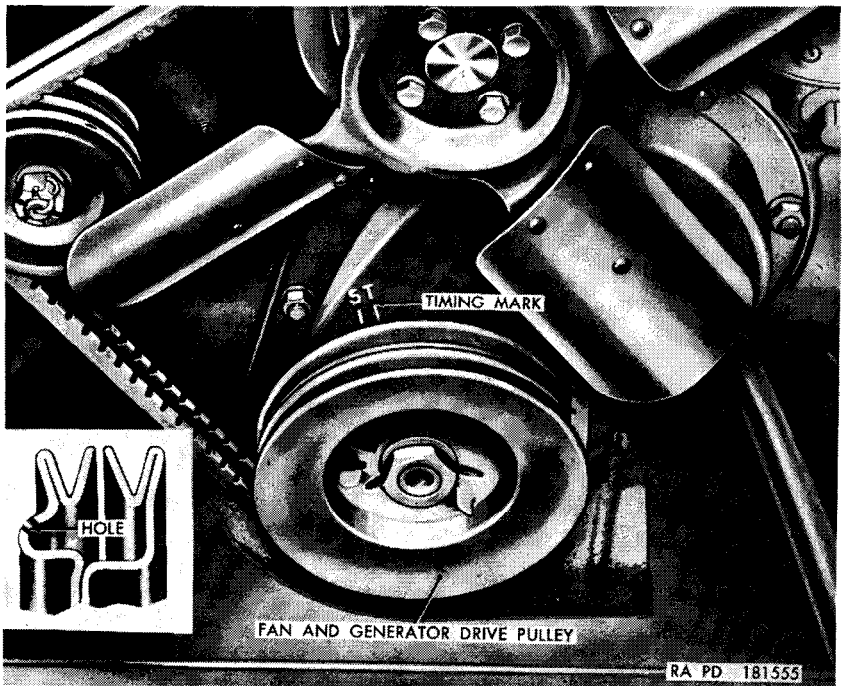

Figure 58. Timing marks on fan and generator drive pulley and timing gear cover.
h. Start the engine and run it at idle speed. Direct the beam from the timing light toward the timing marks (fig. 58). Loosen the mounting clamp screw under the distributor with coil assembly and turn the distributor until the timing marks appear together. When the timing marks appear together, tighten the mounting clamp screw.